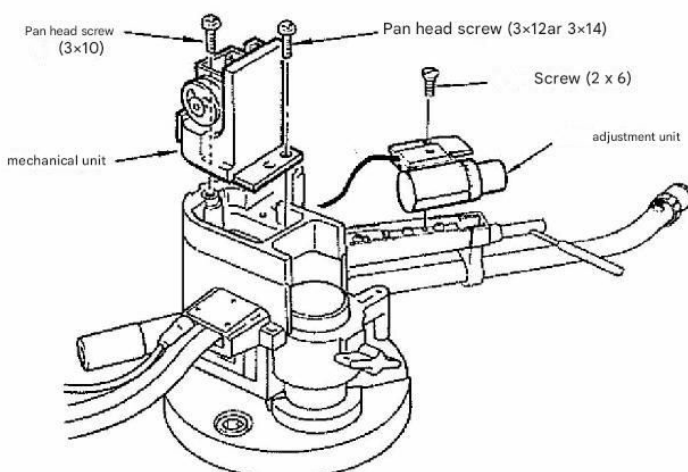

Fig. 12
- ① Turn the S-arm over as shown in Fig. 12 and remove the three screws.